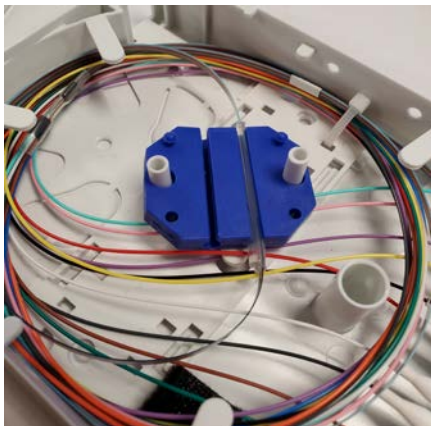

Figure 12
8.7 Wrap fiber around cassette as shown in Figure 12 and use using cable ties and Velcro for organization.
8.5 Strip, cleave, splice, and heat shrink the blue fiber in unit 1 of the cassette and the ribbon fiber in the blue subunit of the breakout kit according to splicer manual. Place protection sleeves (correctly sized shrinks sleeves provided with FOX cassette) in designated splice tray modules as shown in **Figure 12**.